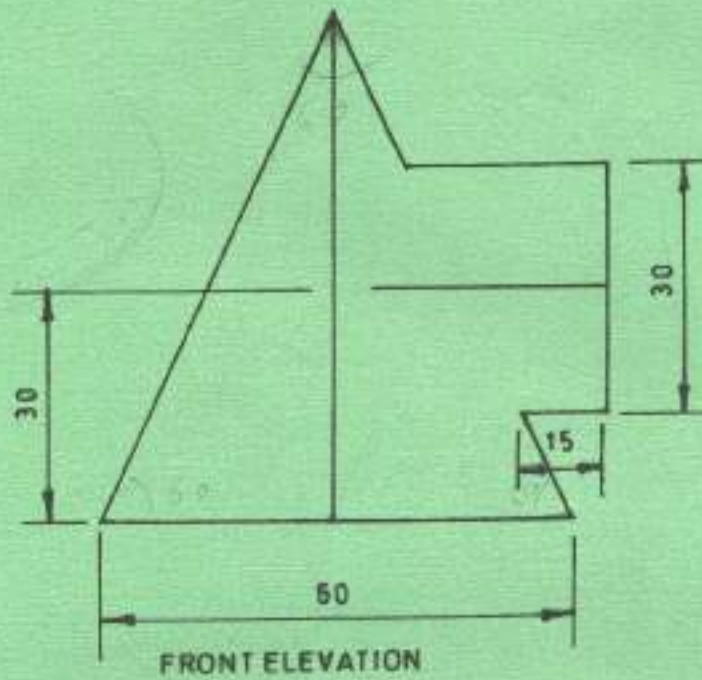

Fig. 8
7. Figure 8 shows a front elevation of a square pyramid meeting with a square prism at a right angle to the centre line.